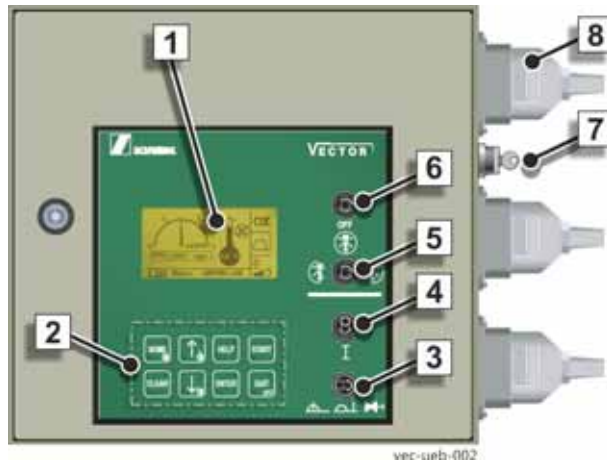

Fig. 182 (Steuerschrank der VECTOR-Steuerung)
Various pieces of information about the concrete pump can be shown on the display of the switch cabinet (1) (**Fig. 182**).